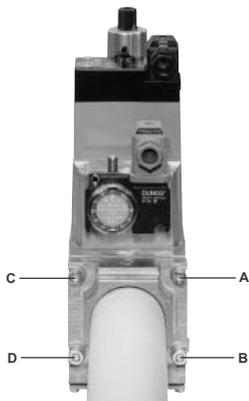
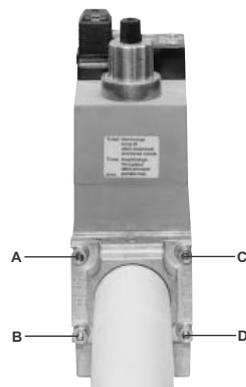
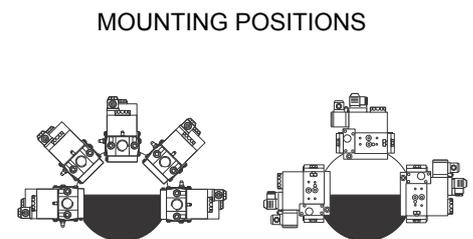

Fig. 28
Fig. 29
Fig. 31
3. tighten screws A, B, C and D (Fig. 28 - Fig. 29), according to the mounting positions (Fig. 31);
1. Loosen screws A and B **do not** unscrew (Fig. 28 - Fig. 29).
2. unscrew screws C and D (Fig. 28 - Fig. 29).
3. Remove MultiBloc between the threaded flanges (Fig. 29).